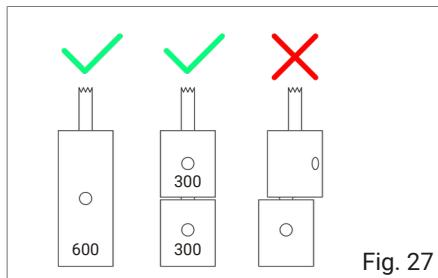

Fig. 27
- 1 First, remove the upper front casing (6) in the area of the saddle mounting bolts (5). To do this, loosen the two M6 nuts inside the tool compartment (7) using a 10 mm open-end wrench (Fig. 27).
- 7 Finally, slide the upper front casing over the saddle mounting bolts and fasten it with the M6 nuts from the inside (Fig. 27).